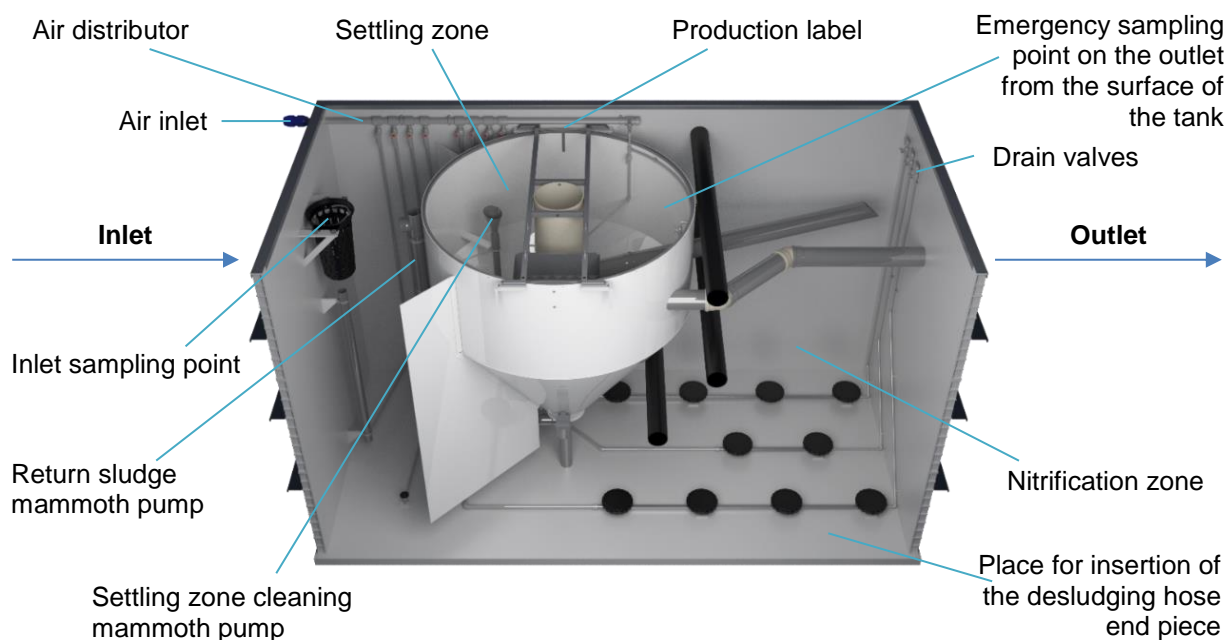

Fig. 25: Containerized WWTP in PP (COMFORT)
If requested, the WWTP technology can be fitted into a rectangular tank made of polypropylene (PP), stainless steel (SL) or concrete (B). The schematic layout of individual parts and technological elements of the WWTP is shown in Figures 25 and 27.